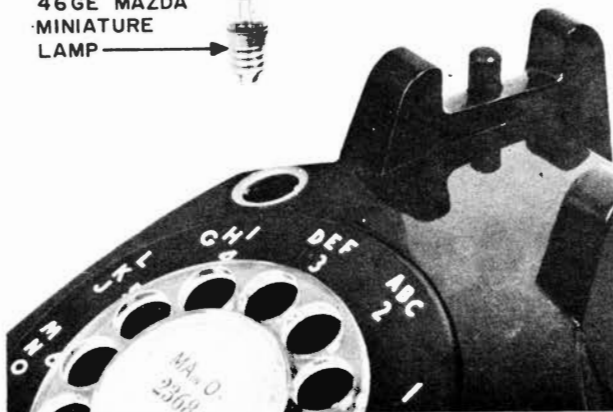

Fig. 36 — 500H, PR, UR, or 501PR, UR Set, Lamp Assembly
- 4.11 On dial illuminated sets, the lamp screws into the lamp socket, and the lamp cap fits into a bayonet socket (see Fig. 36).